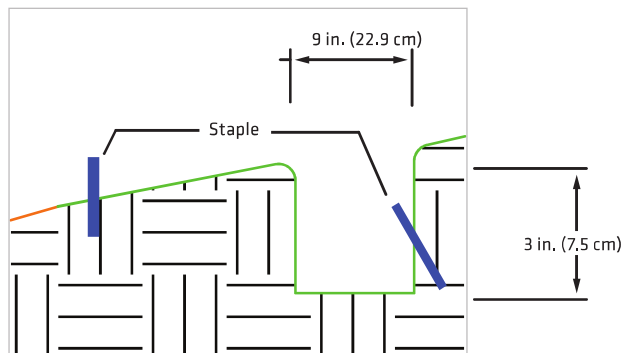

FIGURE 1
1. Begin at the location where the SediMax-FR is to be installed by excavating a 3 in. (7.5 cm) deep x 9 in. (22.9 cm) wide trench along the contour of the slope. Excavated soil should be placed upslope from the anchor trench (Figure 1).
2. Unroll the SediMax-FR so the section with the 2 ft wide top netting is the downslope end (splash apron). The splash apron of the SediMax-FR should cover the anchor trench ensuring that approximately 12 in. (30 cm) is extended beyond the lower edge of the anchor trench (Figure 1).
3. Secure the SediMax-FR in the anchor trench by placing a row of staples/stakes on 12 in. (30 cm) centers across the entire length of the SediMax-FR. A second row of staples/stakes must be placed across the entire lower edge of the SediMax-FR splash apron on approximately 12 in. (30 cm) centers, staggered with the first row of staples/stakes (Figures 1 and 2).